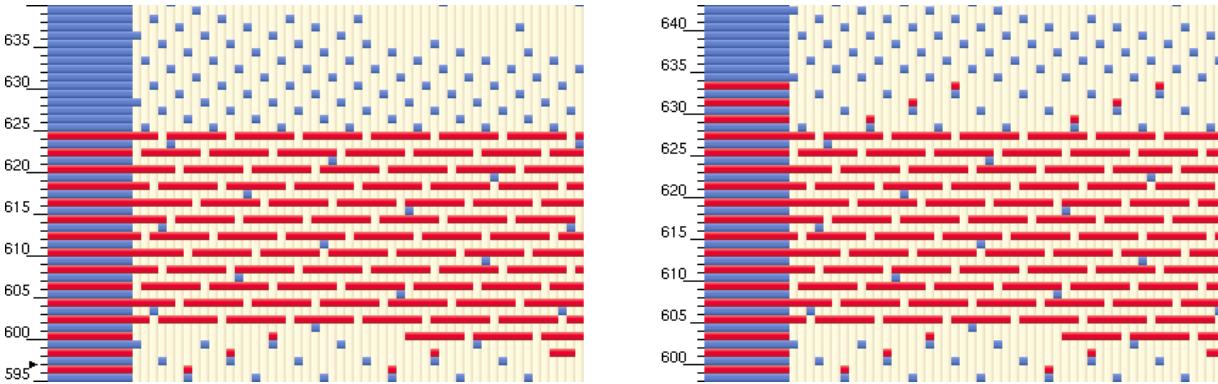

Figure 285: Protect function in extra wefts
12. Protect: sometimes it is necessary to continue with a few extra threads, even if they are not needed in the motif formation; they just hold the last threads in the design firmly in their place. Figure 285 shows the same design, made without protection threads, and with three protection threads.